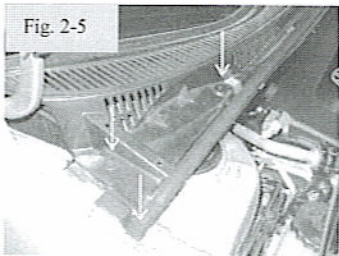

Fig. 2-5
- (1) Remove the push pin fasteners (2 per side) and the seal retainer (1 per side). (Fig. 2-5)